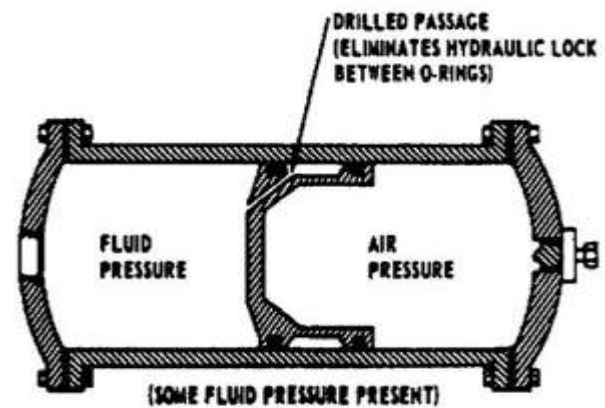

Figure 5
**c. Piston-Type Accumulator.** This accumulator consists of a cylinder assembly, a piston assembly, and two end-cap assemblies. The cylinder assembly houses a piston assembly and incorporates provisions for securing the end-cap assemblies. An accumulator contains a free-floating piston with liquid on one side of the piston and precharged air or nitrogen on the other side Figure 5. An increase of liquid volume decreases the gas volume and increases gas pressure, which provides a work potential when the liquid is allowed to discharge. The piston accumulator serves the same purpose and operates by the same principles as do the diaphragm and bladder accumulators. As fluid pressure from the system enters the left port, forcing the piston down against the initial air charge in the right chamber of the cylinder. A high-pressure air valve is located at the right port for charging the unit. A drilled passage from the fluid side of the piston to the outside of the piston provides lubrication between the cylinder walls and the piston.